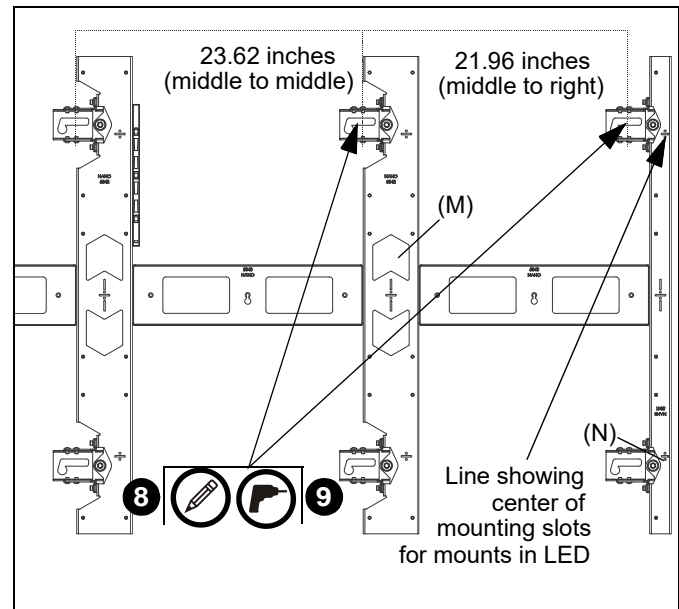

Figure 17
7. Mark mounting hole in top mounting slot along the horizontal line marked in Step 3 of **Installing First Mount** Section. (See Figure 17)
NOTE: The mounting holes are 23.62" apart on-center for middle (M) and middle (M) or 21.96" apart on-center for middle (M) and right (N) uprights. (See Figure 17)
8. Drill two pilot holes (see Table 1 for size) at each location marked in Step 8 (See Figure 17) and follow fastener information (appropriate for wall type) located in Table 1.
11. Install two fasteners and fender washers (D) through lower part of mount and tighten.
- Mark mounting hole in top mounting slot along the horizontal line marked in Step 3 of **Installing First Mount** Section. (See Figure 17)
- Drill two pilot holes (see Table 1 for size) at each location marked in Step 7 (See Figure 17) and follow fastener information (appropriate for wall type) located in Table 1.
- Install two fasteners and fender washers (D) through lower part of mount and tighten.